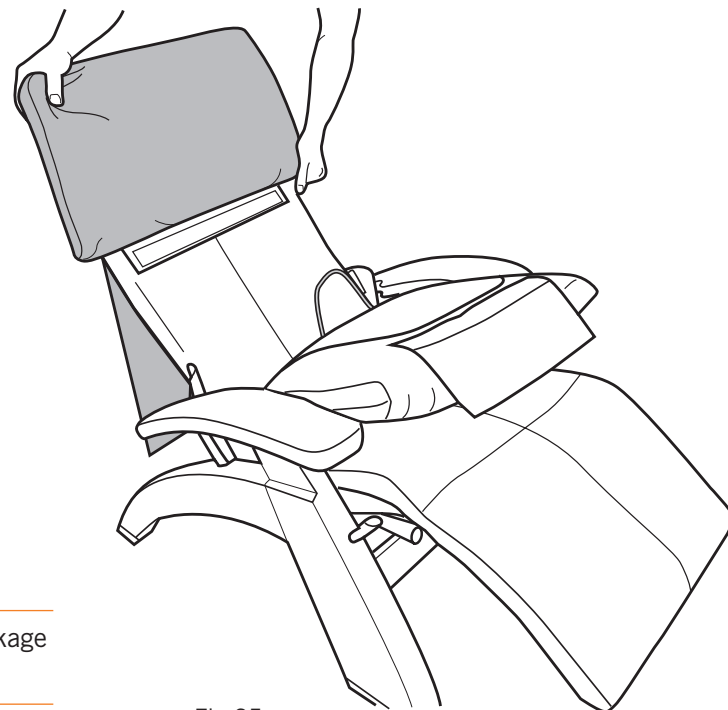

Fig.25
2. Slide the headrest pad over the head rest frame (Fig.25).